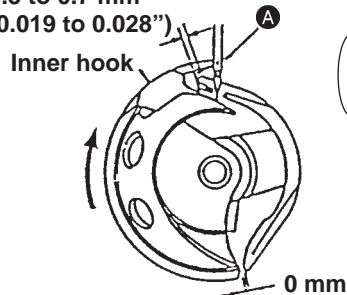

Fig. 2
The center of the needle is aligned with the blade point of inner hook (section A) at the time of step 1) (Fig. 2)
- 6) Clearance provided between the inner hook and the shuttle driver is 0.5 to 0.7 mm. (Fig. 2)